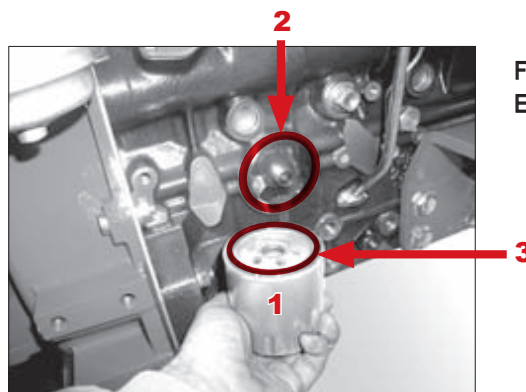

Fig. 69
2. Unscrew the engine oil filter item 1 (Fig. 69):
3. Clean the sealing surface of the filter holder Item 2 (Fig. 69).
4. Lightly oil the rubber seal of the new engine oil filter item 3 (Fig. 69).